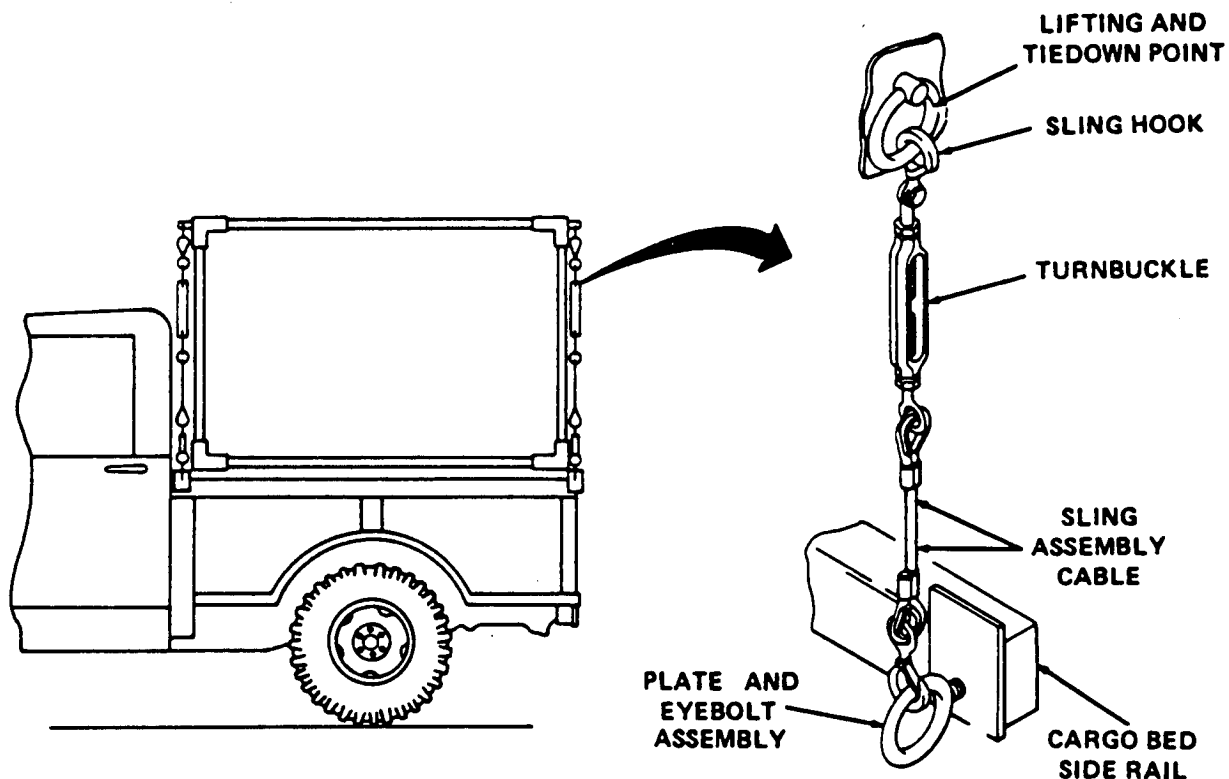

Figure 3-2. Securing Shelter on Truck.
- (6) Remove lifting ring from lifting hook and separate lifting ring from sling hooks. Remove sling hooks from lifting eyes and remove ropes from rear towing eyes.
c. *Securing Shelter on 1-1/4-Ton (M561) Truck. (Figure 3-2)*
- (1) Install plate and eye bolt assemblies on cargo bed siderails of truck as described in TM 9-2320-242.
- (2) Hook ends of four sling assemblies to tiedown eyes at each top corner of shelter, using hooks at furthest end of cables from turnbuckles.